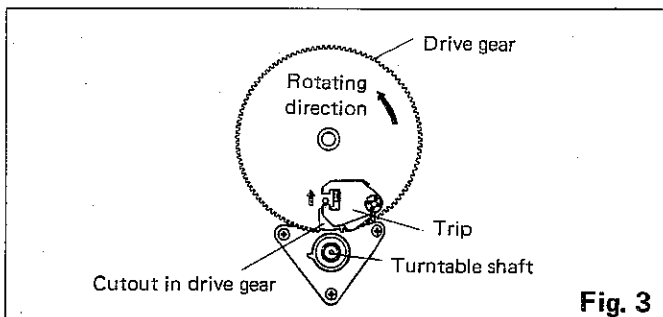

Fig. 3
- (3) Peel off the tape securing the trip. Make the cutout section of the drive gear meet the turntable shaft. Then, push the trip in the arrow-marked direction. (Fig. 3)
- (4) Be sure that a belt is attached to the turntable. Then, put the turntable onto the turntable shaft.